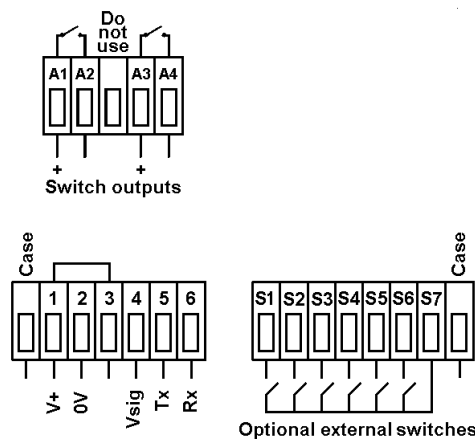

Fig 9 Installation and terminal connections
- Connect the panel wiring to the rear terminal block(s) as shown in Fig 9. To simplify installation, the terminals are removable so that panel wiring can be completed before the instrument is installed.